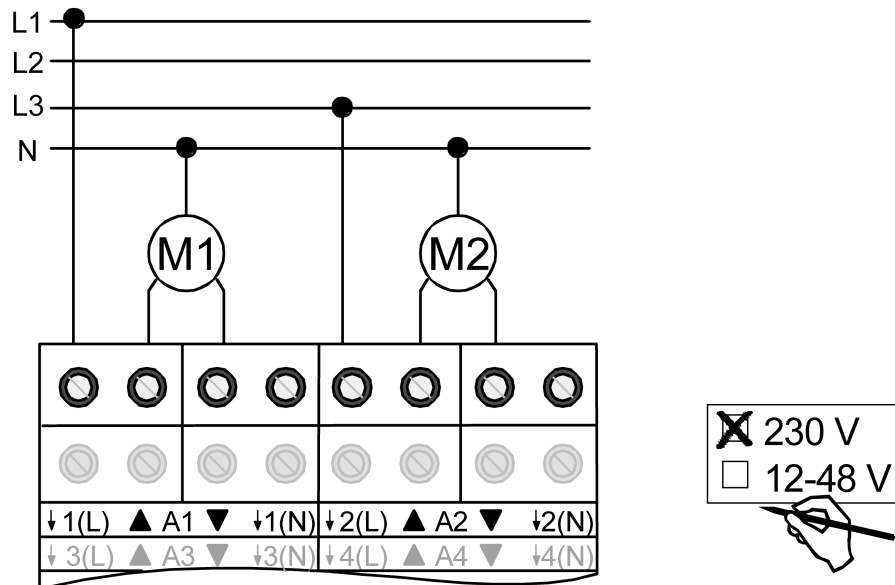

Figure 5: Electrical connection for 230 V drives
- Connect the drives as shown in the wiring example (figure 5).
- i** In the type of supply described (figure 5), it is not absolutely necessary to connect the N conductor to the shutter actuator. If, however, drives with high-resistance travel direction inputs (e.g. drives with electronic limit switches) are connected, then it is necessary to also connect the N conductor to the corresponding terminal of the shutter actuator. The data of the drive manufacturer should be observed.